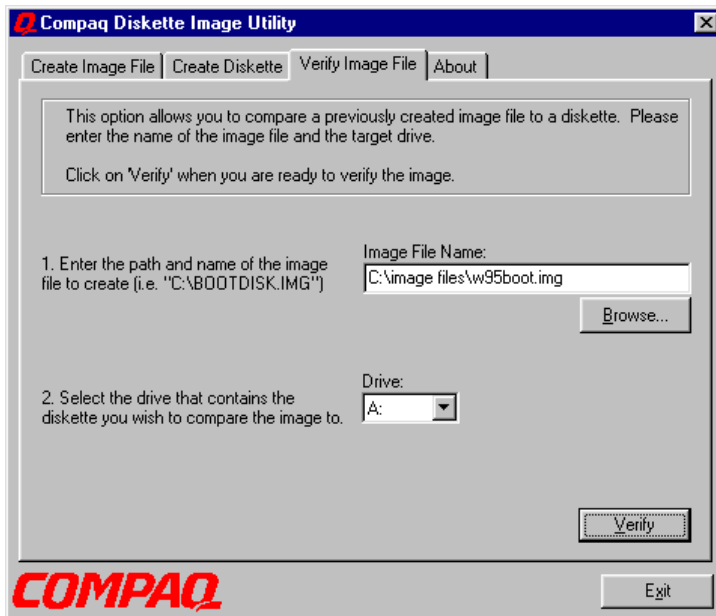

Figure 5-6: Verify Image File screen
3. Provide the location and name of the image file and the target diskette drive. You can navigate to the location of the image file by clicking **Browse**. Your screen should be similar to Figure 5-6.